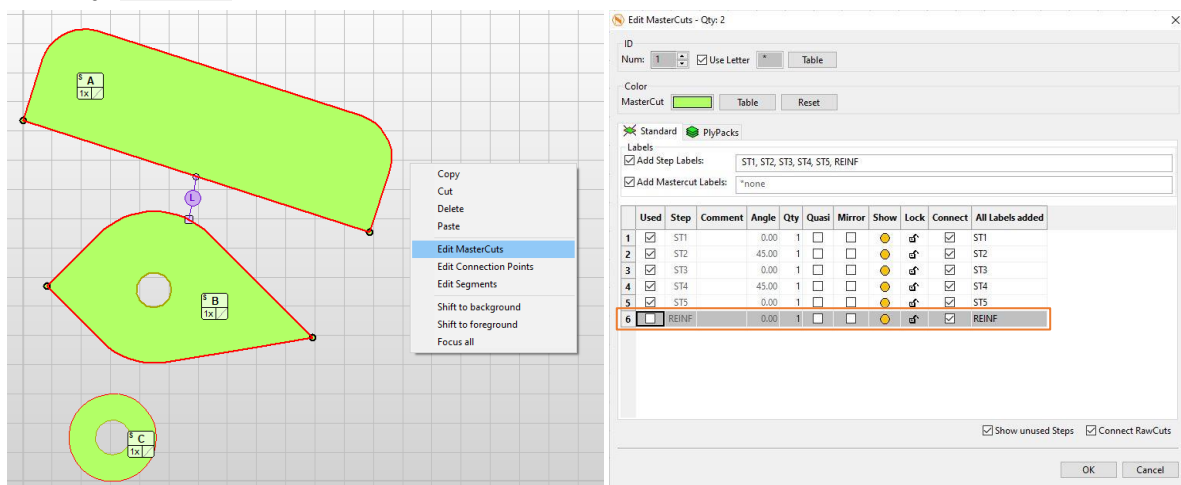

Figure 183
- (2) The second option is to select both mastercuts, click the right mouse button and pick **[Edit MasterCuts]** (Figure 183). Now disable the **[Used]** checkbox for the “REINF” step and confirm with **OK**.